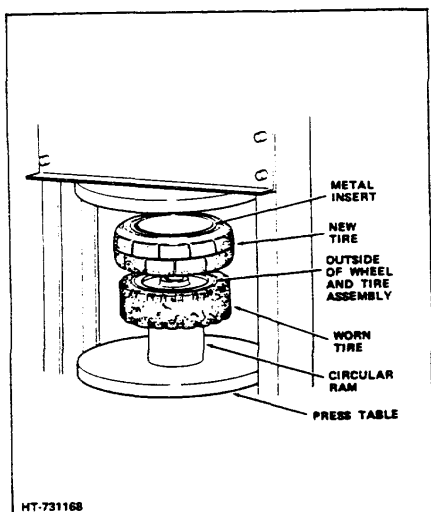

Figure 7-1. Cushion Tire Replacement.
5. Position wheel assembly with worn tire on top of circular ram so outside of wheel is positioned upward (Fig 7-1). The outside edge of the wheel has a chamfer to help guide the new tire onto the wheel. The chamfered edge must always be the leading edge of the wheel whenever a tire is pressed onto a wheel.